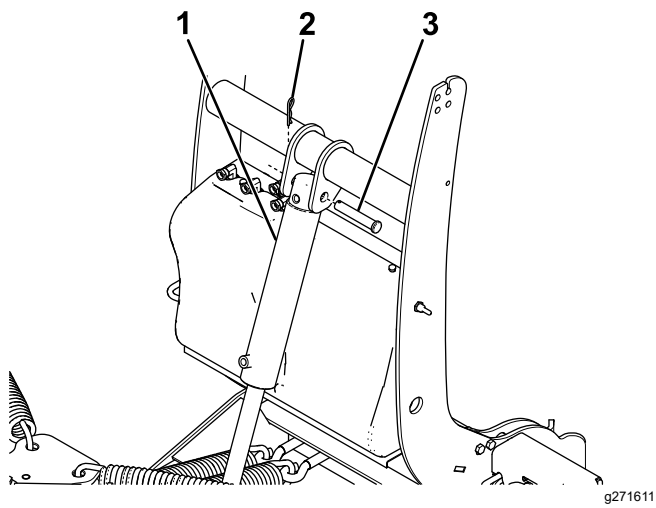

Figure 12
2. Secure the free end of the lift cylinder to the coupler tower using a clevis pin (5/8 inch) and hairpin cotter (Figure 12).